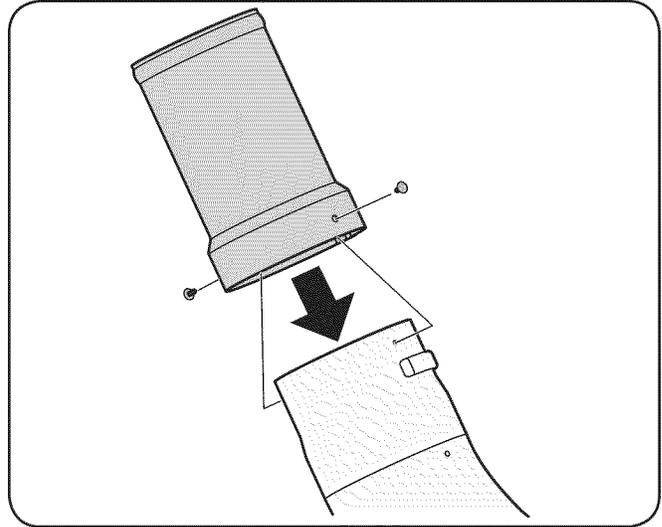

Figure 4-21
5. Install the chute adapter onto the chute elbow by lining up the tabs and sliding the adapter over the chute elbow, as in Fig. 4-21. Secure with two ratchet clips 726-3046 from hardware pack 689-00147A.